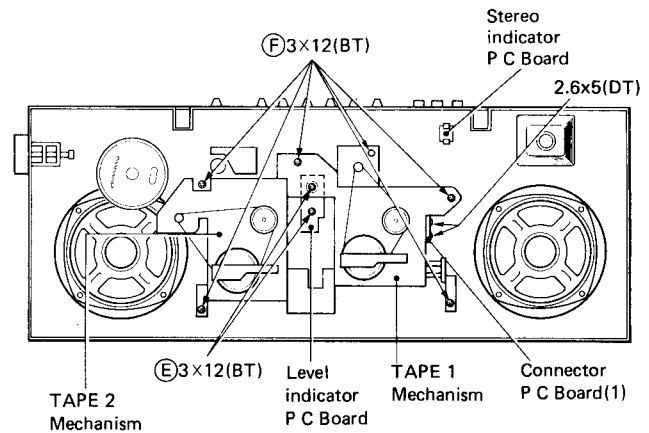

Fig. 6
- 7. Level indicator PC Board removal (Fig. 6)**
The indicator PC Board can be removed by removing 2 fixing screws (E) shown in Fig. 6.
- 8. Stereo indicator PC Board removal (Fig. 6)**
- 9. Cassette mechanism (TAPE 1 and 2) removal (Fig. 6)**
The cassette mechanism (TAPE 1 and 2) are removed while they are assembled together by removing 6 screws (F) shown in Fig. 6.